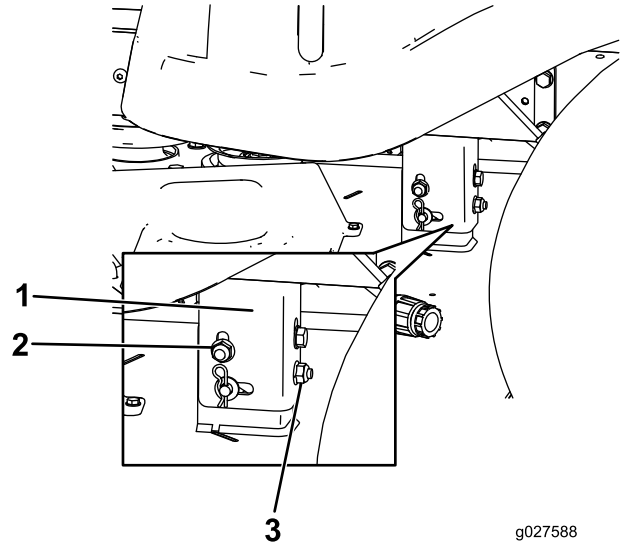

Figure 53
- Raise or lower the left side of the mower deck by rotating the rear nut. (Figure 53).